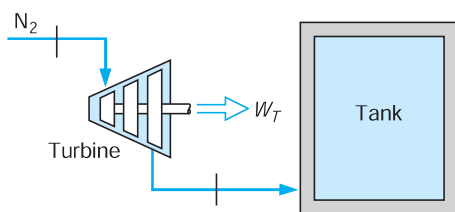

FIGURE P6.123
- 6.123** A nitrogen line at 300 K, 0.5 MPa, shown in Fig. P6.123, is connected to a turbine that exhausts to a closed, initially empty tank of 50 m^3 . The turbine operates to a tank pressure of 0.5 MPa, at which point the temperature is 250 K. Assuming the entire process is adiabatic, determine the turbine work.